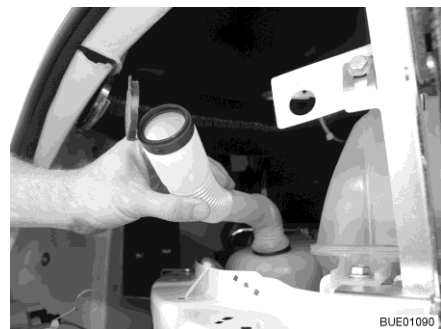

Fig. 45 Filler neck in filling position
- Twist the flexible hose in a way so that the filling hole points upwards (Fig. 45).